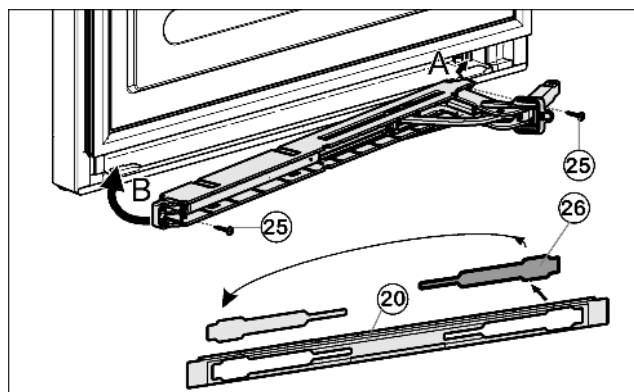

Fig. 15
- ▶ Remove the cover Fig. 15 (26) from the faceplate Fig. 15 (20) and re-insert it at the other side.
- ▶ Engage the soft stop unit with the joint pointing to the hinge side (A) and swivel into place (B).
- ▶ Screw the soft stop unit firmly into place (2 mal Torx® 15) Fig. 15 (25).